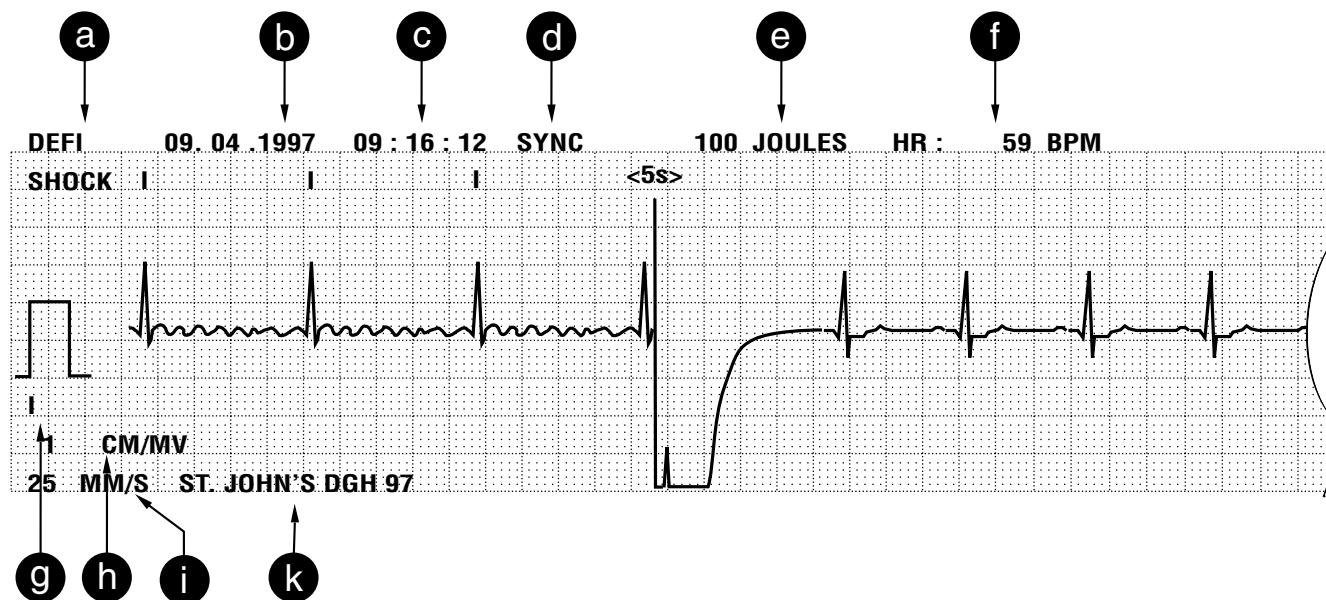

Figure 5-9. Example of a recording initiated by a defibrillation pulse
- After defibrillation, the defibrillator stops beeping, and the energy actually delivered to the patient is displayed for 10 seconds in place of the stored energy. At the same time the recorder writes a 16-second ECG, including a history of 4 seconds (adjustable, Figure 5-9). CardioServ saves the ECG (4-s history, 5 s blanked, 10 s after release of shock). On the recording the blanked period of time is marked with a spike (Figure 5-9). Refer to section 7 “The Memories of CardioServ”.